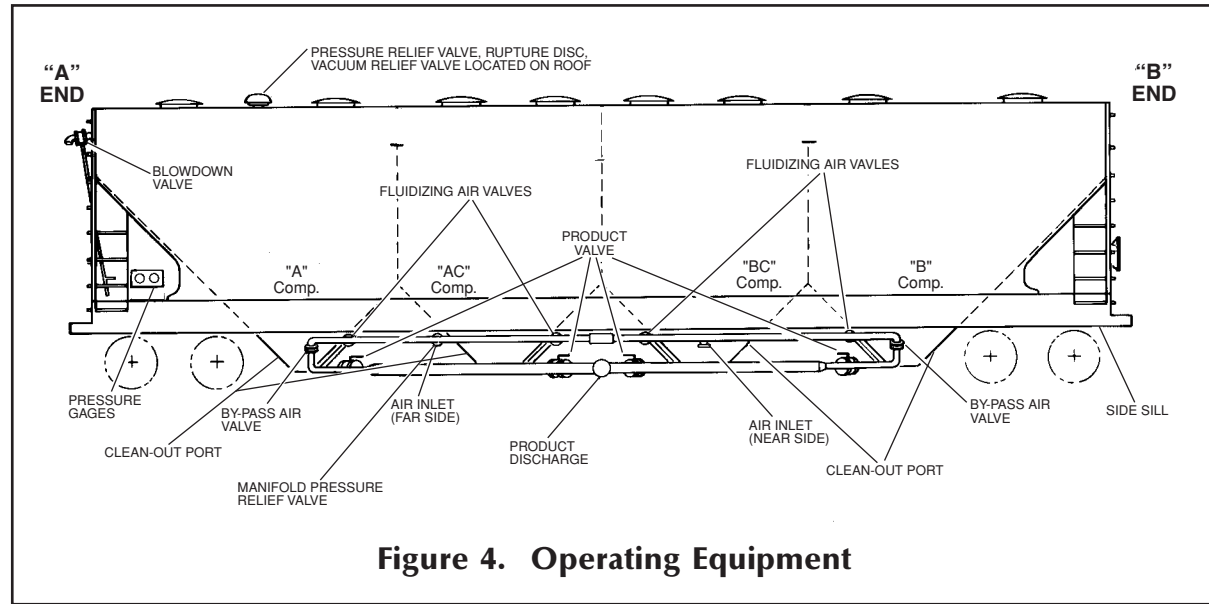

Figure 4. Operating Equipment
1. **Pressure Relief Valves** (Refer to figures 4 and 6) - The car is equipped with a pressure relief valve on the "A" end of the car body that is set to open at  $14.5 \pm 0.5$  psig. The car is also equipped with a pressure relief valve on the air inlet manifold (see figure 6) which is set to open at  $16 \pm 0.5$  psig.